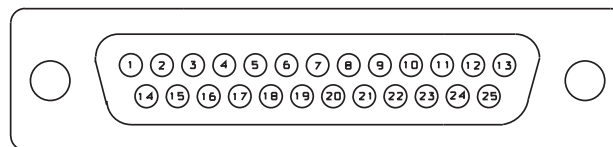

Figure 2-2: Wiring the 25-pin Remote Interface Connector
- A) Connect two outputs from your station remote control system to the REMOTE INTERFACE connector on the rear panel of the 8600Si, according to the wiring diagram in Figure 2-2 on page 2-3.
Optically-isolated remote control connections are terminated in a type DB-25 male connector located on the rear panel. It is wired according to Figure 2-2. To select the desired function, apply a 5-12V AC or DC pulse between the appropriate REMOTE INTERFACE terminals. The (-) terminals can be connected together and then connected to ground at pin 13 to create a Remote Common. A current-limited +12VDC source is available on pin 25. If you use 48V, connect a 2kΩ ±10%, 2-watt carbon composition resistor in series with the Remote Common or the (+) terminal to provide current limiting.